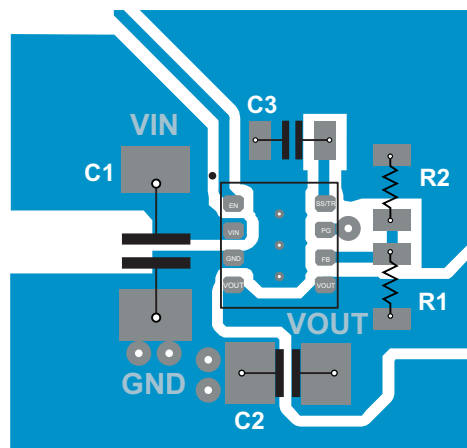

图 29. TPS82130 PCB Layout
- Refer to Figure 29 for an example of component placement, routing and thermal design.